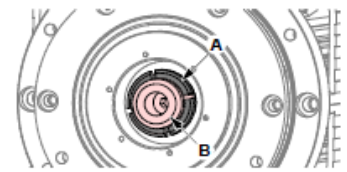

Figure 9: Segments (A) and ejector (B) of the HSK coupling system
- Apply the grease in the space between the collet segments and the ejector (Figure 9), with the aid of a thin, clean plastic tool.